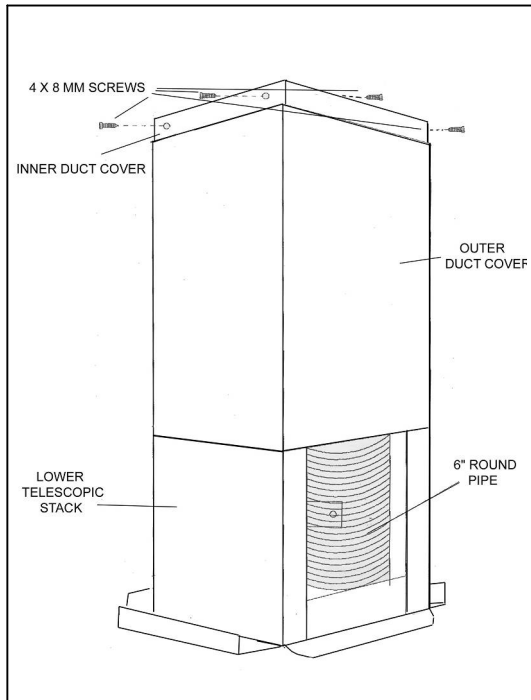

Figure 5
- Slide the duct cover up and secure the inner duct cover to the telescopic stack with four (4x8 mm) screws (provided). Refer to Figure 5.